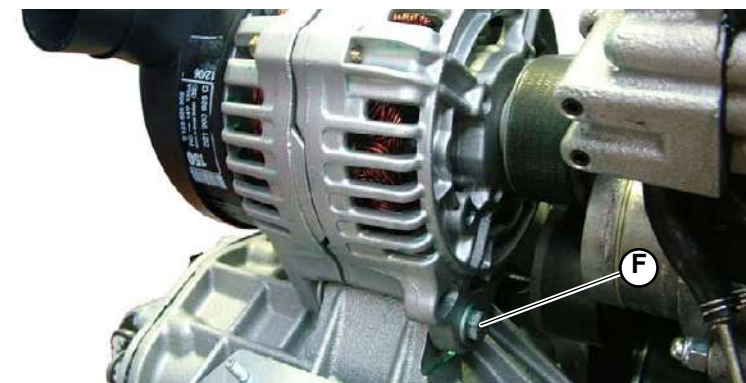

Fig.4
5. Tighten the bolt that secures the alternator (F-Fig.4).